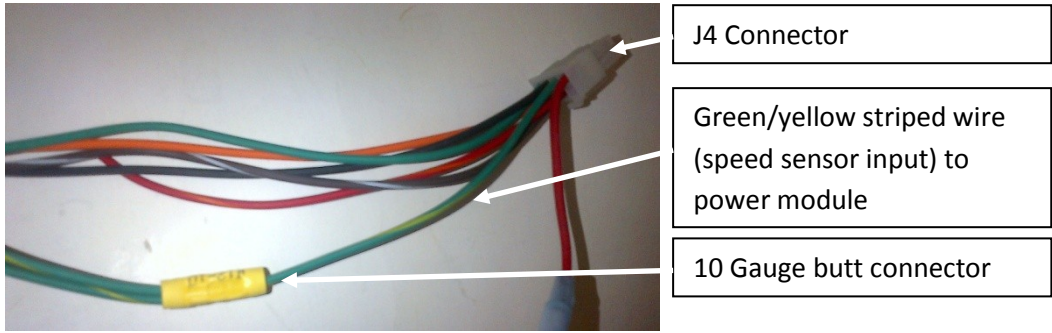

Figure 6
- 5 Locate the green and yellow striped wire on the J4 connector pin # 3 (speed signal). Cut the green and yellow striped wire about 6" down from the connector and connect green and yellow striped wire from digital speed sensor box to green and yellow striped wire going to the APU main unit with butt connector. (2 green and yellow striped wires connected together on one end). Connect the other end to the single green and yellow striped wire going to the power module J4 connector pin # 3 (speed signal). (Figure 6)